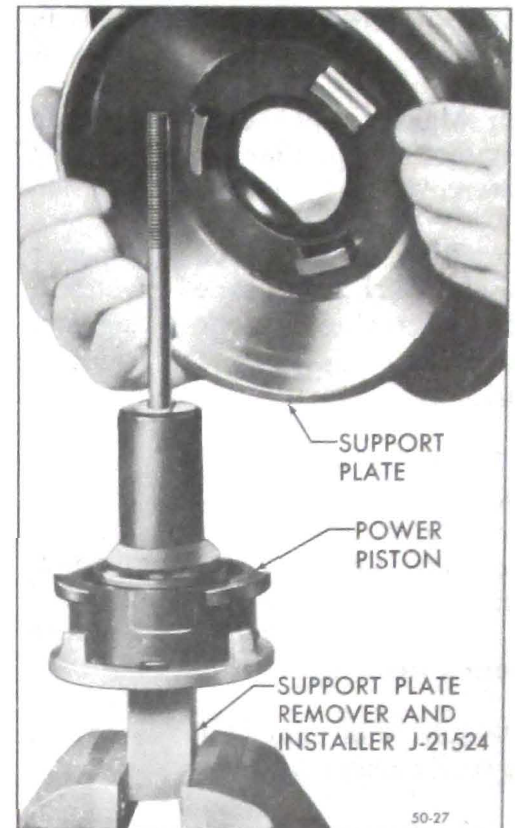

Figure 50-91 Installing Power Piston into Support Plate
15. Holding support plate by metal, with locking tangs down, place support plate and diaphragm assembly over tube of power piston. The flange of diaphragm will fit into groove on power piston. See Figure 50-91.